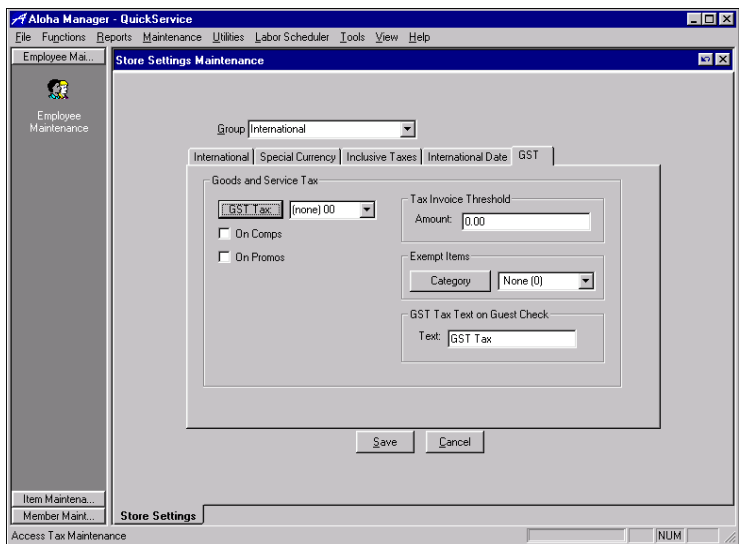

Figure 5-121 GST Subtab
Select Maintenance > Store Settings > International group to access the GST subtab shown in Figure 5-121:
7. Select the **GST** subtab (Figure 5-121).